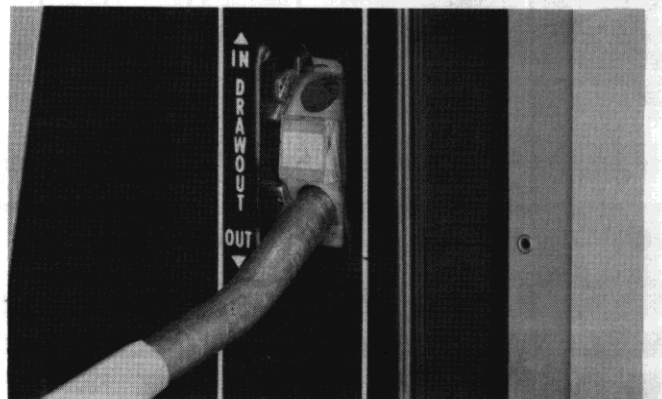
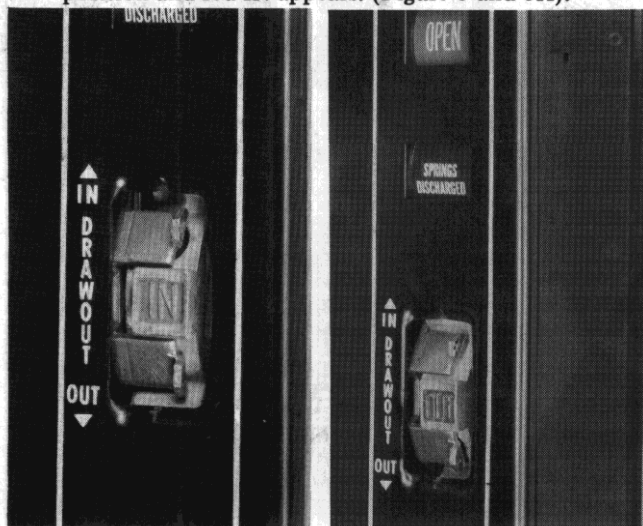

Figure 8
Figure 9 & Figure 9A
12. Push **drawout** interlock to left, insert **drawout** lever 1101-9251, (Figure 8) into the bottom hole of the **drawout** mechanism and, with an up-stroke, rack breaker into the **TEST** position. Remove **drawout** lever, **drawout** interlock plate should snap into position completely covering the holes.
- To put circuit breaker into service push **drawout** interlock to left, insert **drawout** lever in the bottom bole of the **drawout** mechanism (Figure 8) and **with an** upward stroke rack breaker into operating position. Remove **drawout** lever, **interlock plate should snap in position and red IN appears. (Figure 9 and 9A).**